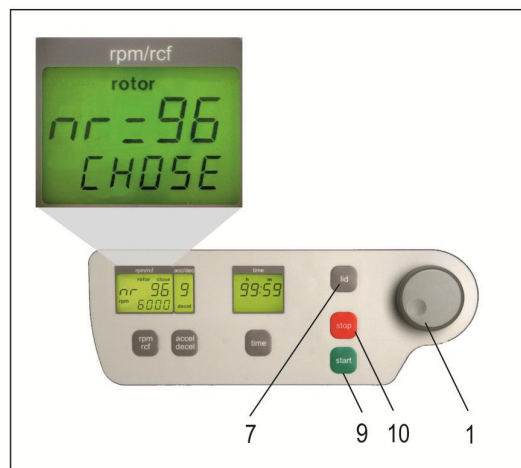

Figure 1
Switch on the unit and open the lid. Now press simultaneously the keys "lid " (7) and "stop" (10). In the display "rpm/rcf" (A-1) then appears the old settled rotor type, i. e. "96". With the potentiometer (1) you can settle the used rotor now. (see figure 1) To adopt the data in the unit please press the "start" (9) key.